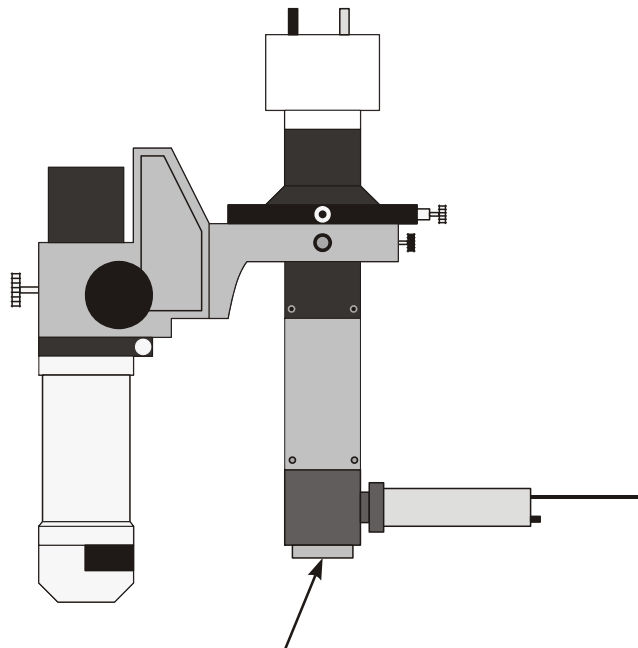

Fig. 1-9. Mounting the lens.
3. Screw the lens supplied with the optical viewing system into the lower end of the beam splitter (Fig. 1-9).